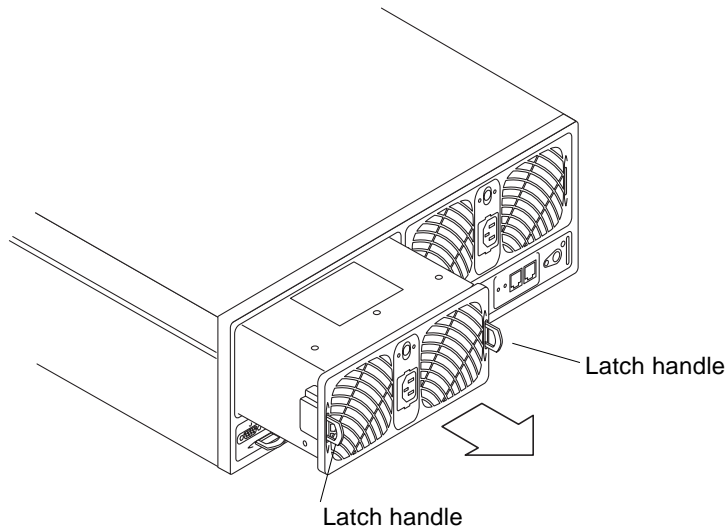

FIGURE 7-3 Removing the Power and Cooling Unit
- 5. Unlock the power and cooling unit by using a coin or small screwdriver to push in and release the two latch handles (FIGURE 7-3).**